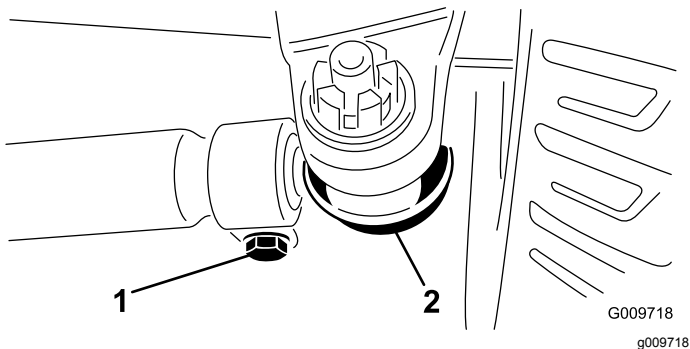

Figure 88
3. To adjust, remove the cotter pin and nut from either tie rod ball joint (Figure 88). Remove the tie-rod ball joint from the axle-case support.
4. Loosen the clamps at both ends of the tie rods (Figure 88).